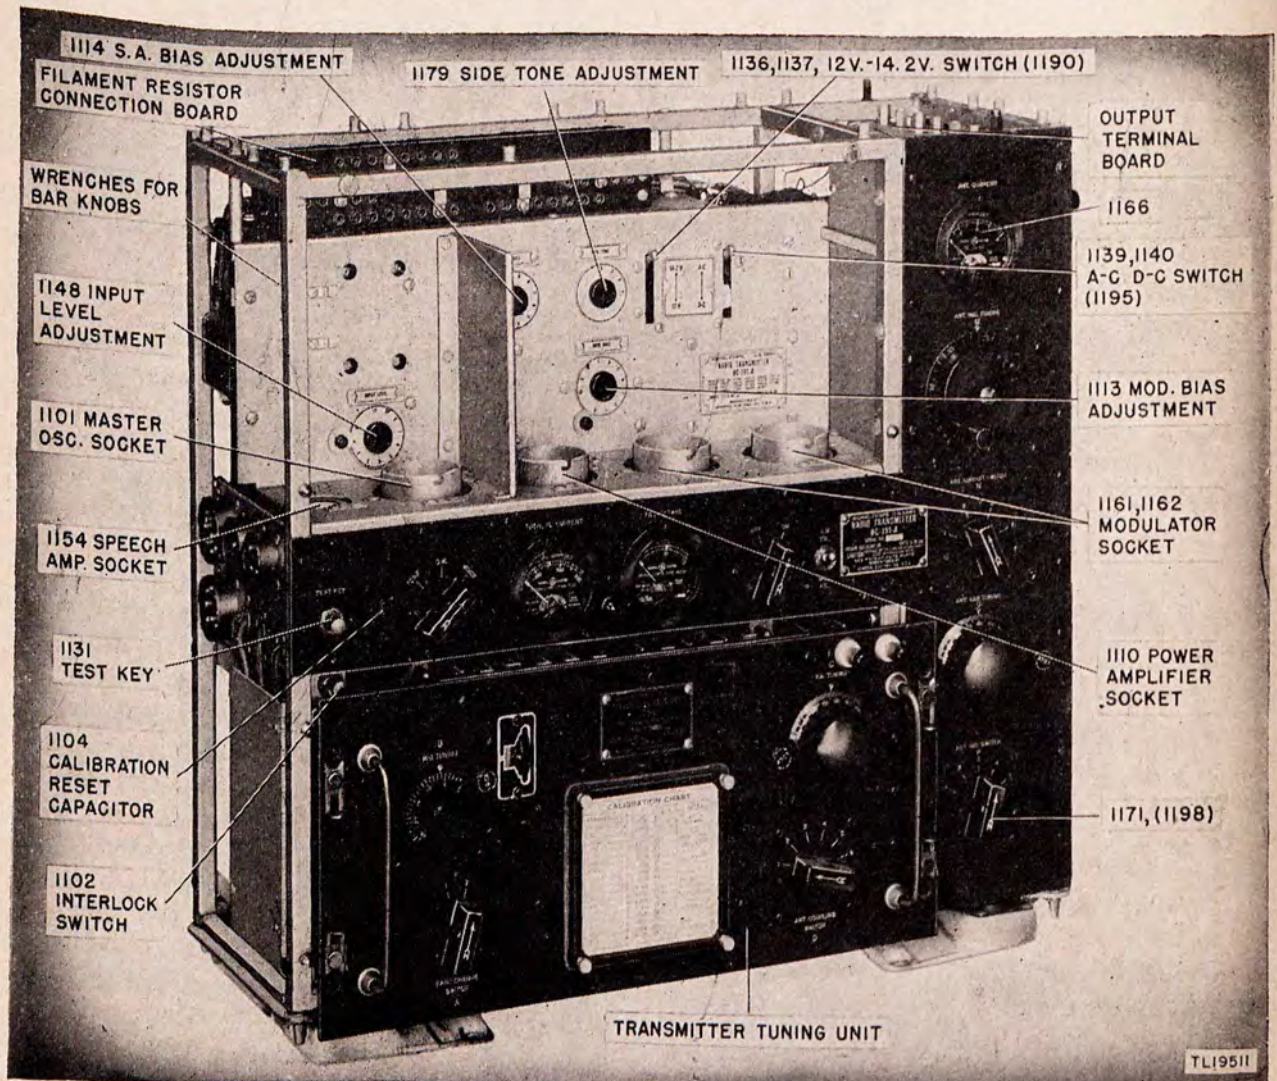

Figure 6. Controls in tube compartment.
*a.* FILAMENT-CIRCUIT SWITCHES, D-C OPERATION. On the panel behind the vacuum tubes in the tube compartment are several knobs and switches. (See fig. 6.) Between the fourth and fifth tubes, counting from Tube JAN-10Y (VT-25) at the left end, there are two switches, the 12V.-14.2V. switch and the A-C D-C switch. The proper operating position of these switches is determined by the power-supply equipment used. Place the A-C D-C switch in the D-C position when using a battery-driven dynamotor or an internal combustion engine-driven generator for power supply. Throw the 12V.-14.2V. switch to the 14.2V. position when the power supply is a battery-driven dynamotor in which the battery is on charge while the equipment is in operation. This condition exists in virtually all vehicle and aircraft installations. Move the switch to the 12V. position when using a battery-driven dynamotor supply in which the battery is not on charge. When the transmitter is used with the engine-driven generator power
(2) Remove the front cover from the tube compartment and place the A-C D-C switch in the D-C position. Also remove the 16 screws which fasten the transmitter top, and remove the top.
(3) The filament-resistor connection board is at the top left of the tube compartment. (See fig. 6.) On the left end of the board are the connector studs, labeled: COMP., C.W. FILAMENT, 14 VOLTS, and 12 VOLTS. (COMP. is abbreviation for compensator.) On the right are the connector studs MOD. FILAMENT, 14 VOLTS, and 12 VOLTS.
(4) Remove all links by unscrewing the holding screws; set the 14V.-14.2V. switch at the 14.2V. position set TONE-C.W.-VOICE switch in the C.W. position; set C.W. FIL.-MOD. FIL. switch in the C.W. FIL. position.
(4) Adjustment of the controls in the tube compartment can be made safely with high voltages connected, since there are no exposed high-voltage elements if all tubes are inserted in their sockets. Removal of the transmitter tuning unit from the transmitter operates the safety interlock switch (1102) (fig. 6), which disconnects all voltages to the transmitter when the latter is operating from a d-c supply. Before power is turned on, preset the transmitter frequency approximately as described in (5) and (6) below.
(5) Insert transmitter tuning unit, covering the frequency range in which tests are to be made, and lock it in place with the snap-slide catches. The tuning units cover frequency ranges given in paragraph 33a.
(6) On the front panel of each tuning unit is a CALIBRATION CHART. Note that some of the lines of numbers are printed in red. These indicate frequencies reserved for special purposes. Do not transmit on them unless specifically authorized to do so by the local commander. There are four columns of figures on the chart, labeled from left to right, FREQUENCY, A, B, and C. If the frequency on which operation is planned is exactly one of those on the chart, the transmitter can be preset to a certain frequency as follows:
(1) Warm up the transmitter for at least 30 minutes, with the antenna tuned for rated output.
(2) Adjust the transmitter for C.W. operation. Tune to approximately the highest frequency which can be reached, using the transmitting tuning unit which tunes over the highest frequency range authorized for the radio set. Use data on calibration Chart and approach this setting from the lower dial readings.
(3) Tune frequency meter to the frequency corresponding to that at which the transmitter has been set.
(4) Open calibration-reset port, located to the right of TEST KEY (fig. 6) by turning it. With a screw driver slowly adjust calibration-reset capacitor (1104). Continue this adjustment until the signal from the transmitter zero-